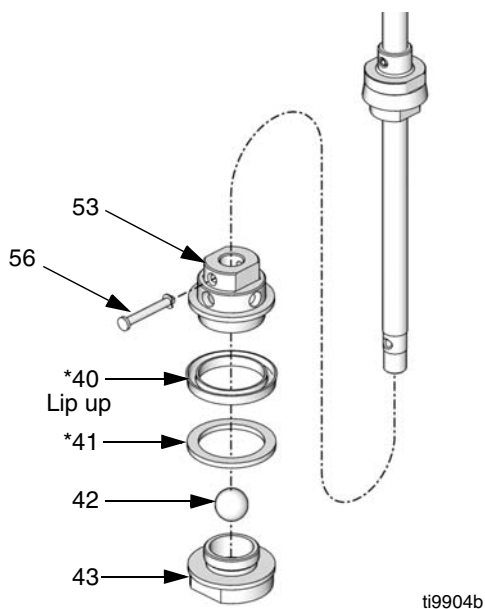

FIG. 21
8. Remove pin (56). Remove piston valve assembly. Unscrew piston valve (43) from piston housing (53). Remove wear ring (41*), u-cup (40*) and ball (42). Inspect all parts for damage. See FIG. 21.